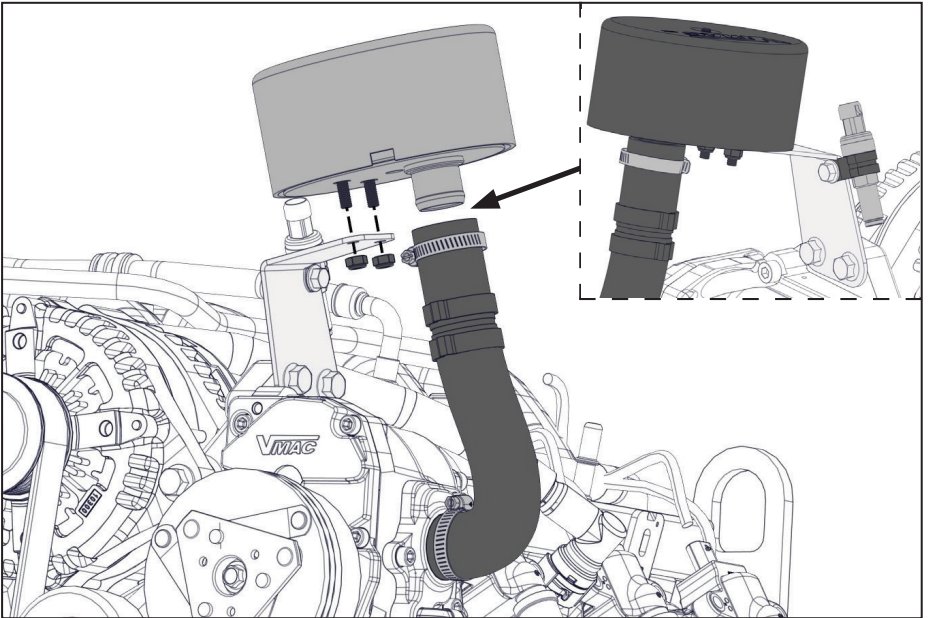

Figure 22 — Install air filter assembly
- Mount the air filter assembly onto the compressor (Figure 22).